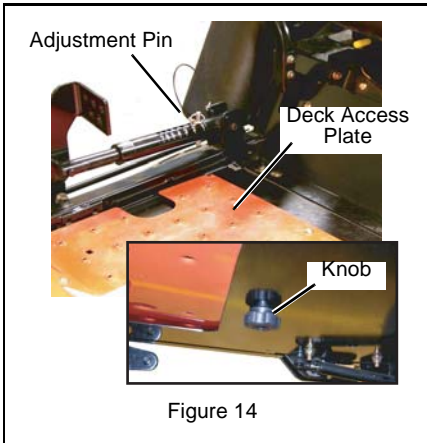

Figure 14
1. Install adjustment pin in the first adjustment hole (figure 14).
2. Remove the knob located between the deck and the access plate (figure 14).